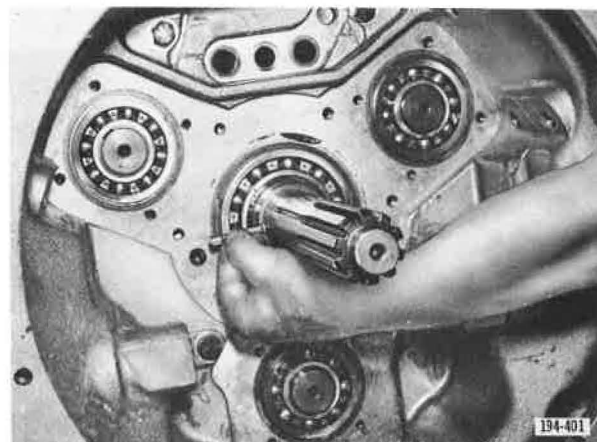

Figure 5-594. Removing Oil Pump Vane
7. Remove oil pump vane from main driving pinion. Tap on gear end of main driving pinion with a nylon mallet, if necessary, and remove assembly from case. See Figures 5-594 and 5-595.